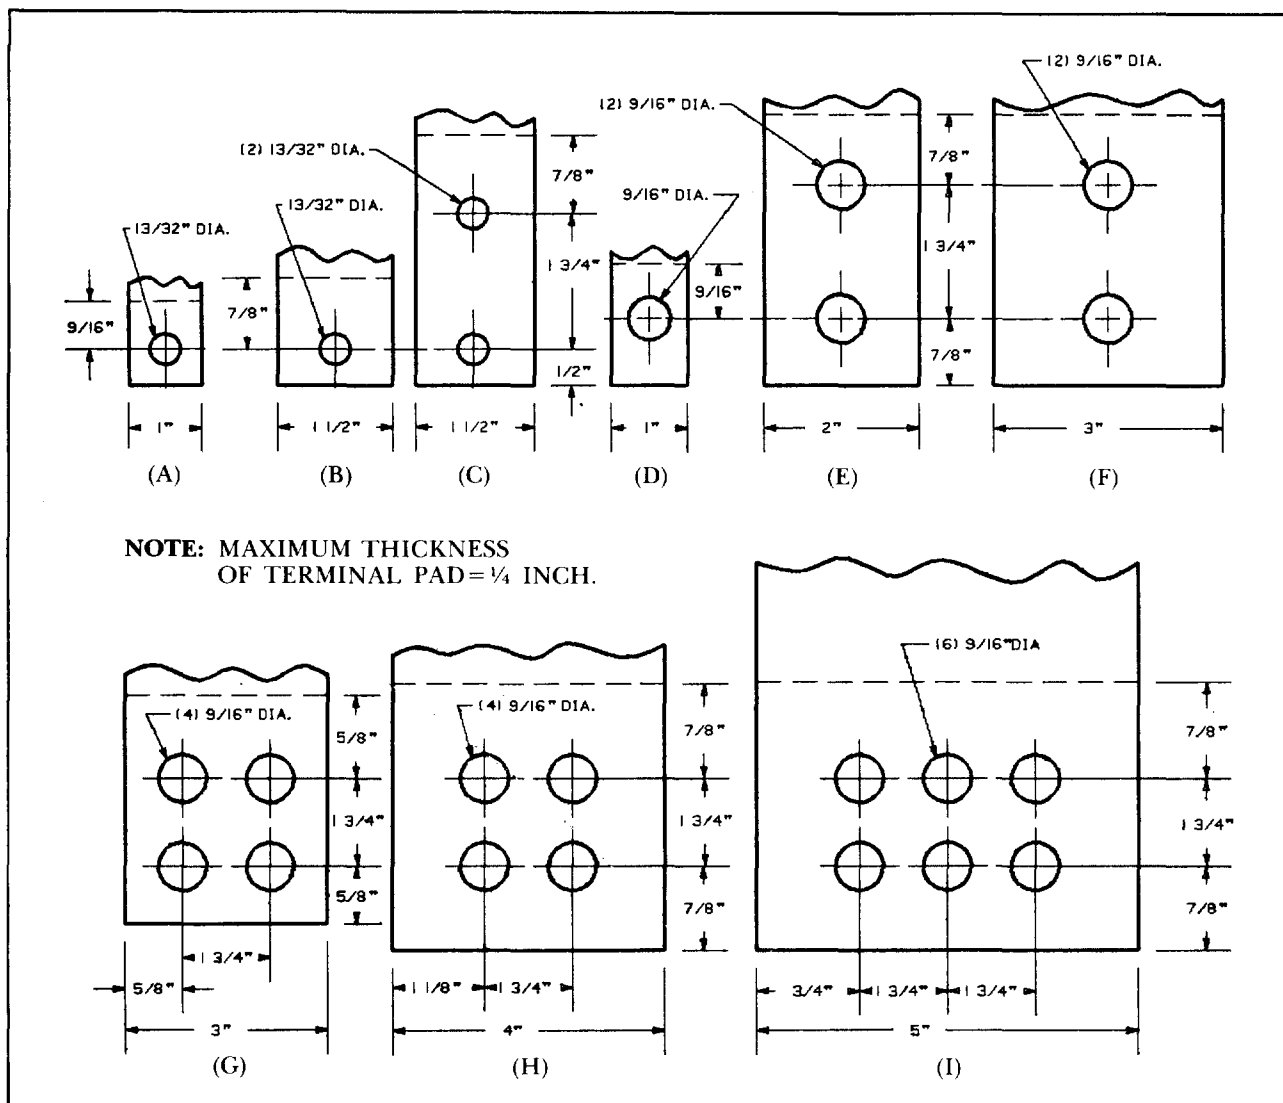

Figure 1. Terminal pad dimensions
7. Obtain bolts, flat washers and lock washers as required for the various types. The size of bolt holes and the number of holes per terminal pad can be determined by referring to Table 4 and Figure 1.